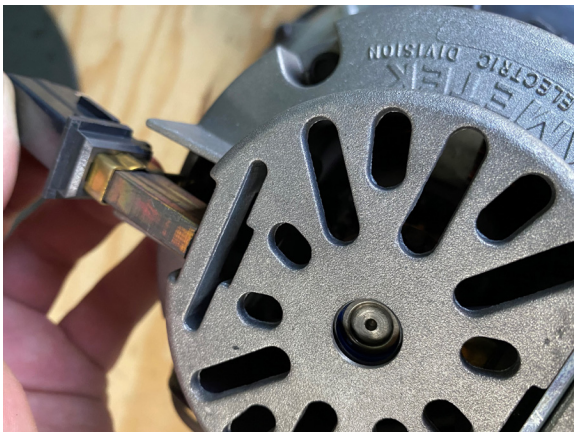

Fig. 4
7. With both of the Brush Holder Clips removed, grab one of the Brushes and begin to pull it out of the Motor Housing. You may need to tilt the Brush at an angle to get it completely out of the Motor Housing, but it should slide out easily (Fig. 4).
a. **NOTE: The Brush shown in Figure 4 is for example only. The Brushes you are replacing will not look like this and should be worn down to the Brush Holder.**